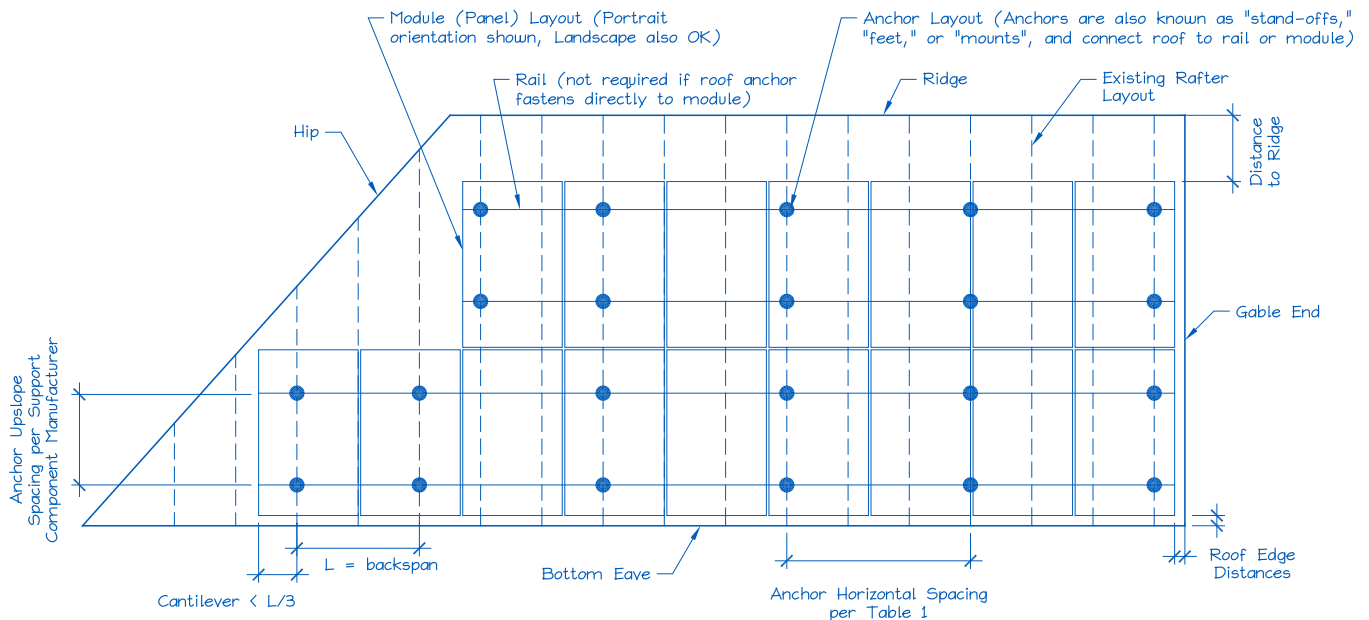

Figure 2. Sample Solar Panel Array and Anchor Layout Diagram (Roof Plan).
E. Is a roof plan of the module and anchor layout attached? (see Figure 2)
- 1) Proposed anchor horizontal spacing (see Figure 2): _____' - _____"ft-in
1. Anchors are also known as "stand-offs," "feet," "mounts" or "points of attachment." Horizontal anchor spacing is also known as "cross-slope" or "east-west" anchor spacing (see Figure 2).